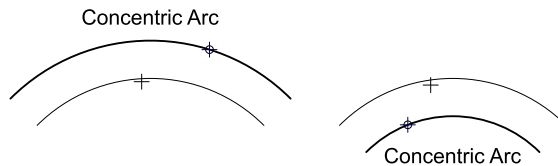

Figure 9-19: With this tool, the concentric arc can be positioned to go through a given point.
3. Click the point through which the concentric arc goes. The arc is created as an arc that is concentric with the chosen arc and goes through the chosen point as shown in Figure 9-19.